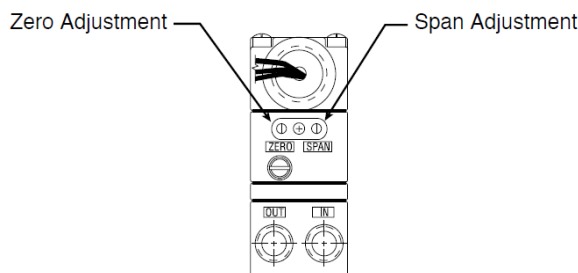

Figure 7 – Zero Adjustment and Span Adjustment
- 3.2.2 Apply the minimum input signal of the range being used (e.g., 4mA for a 4-20mA unit) (see figure 7).